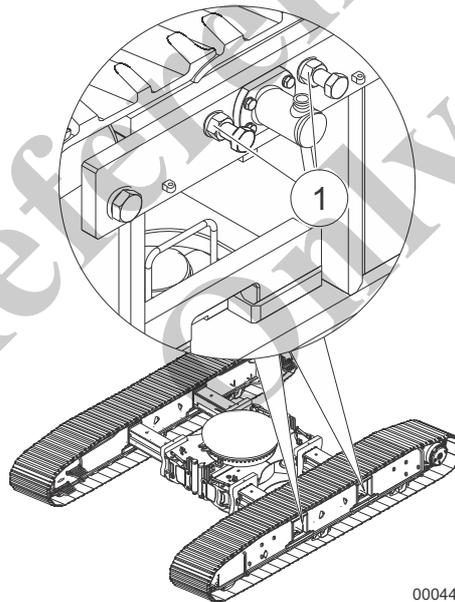

Fig. 119 Loosening the lock nuts on the keys
- 21 | Loosen the lock nuts on the bolts (1) in Fig. 119 and twist them up to the heads.